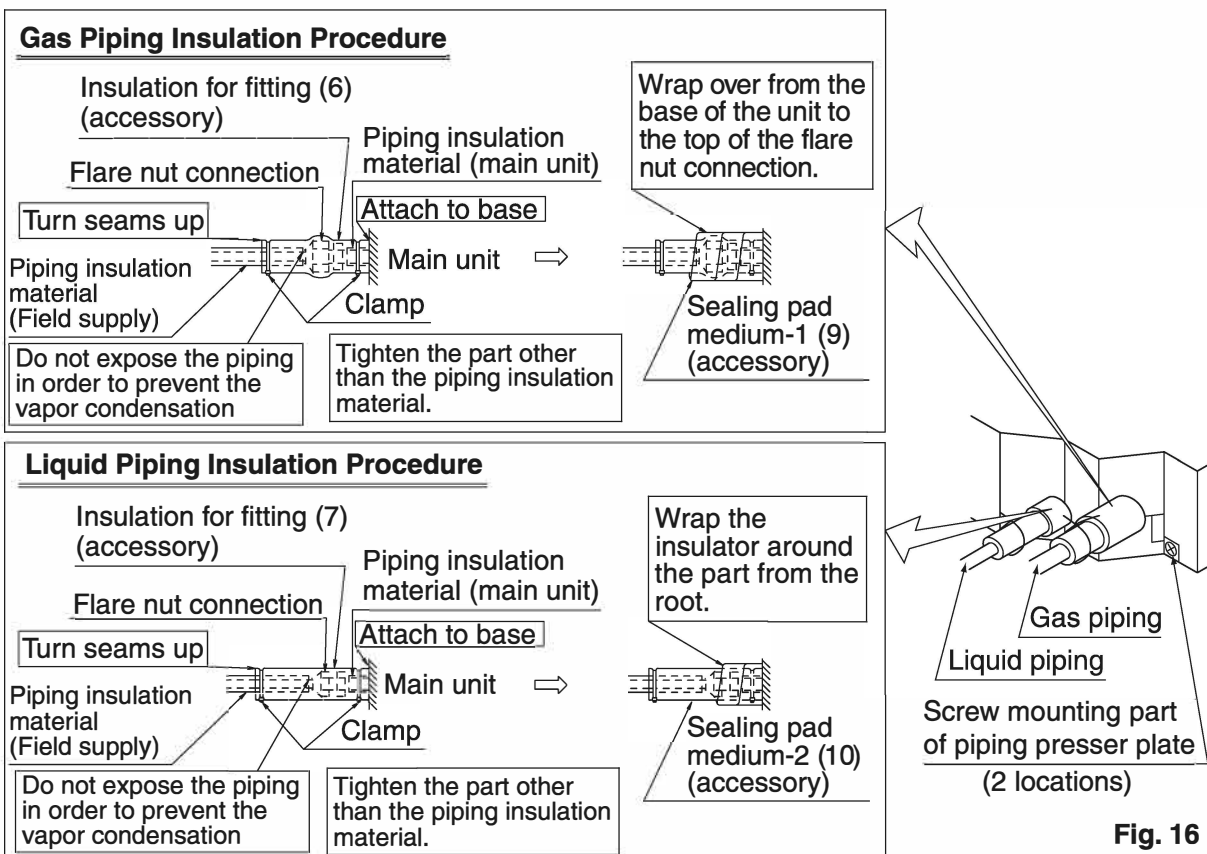
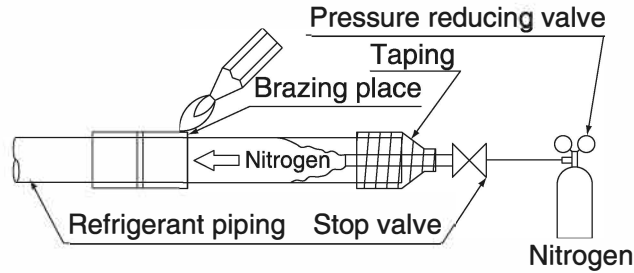

Fig. 16
Fig. 17
- After leak test, referring to **Fig. 16**, insulate both the gas and liquid piping connection with the attached joint insulating for fitting (6) and (7) to prevent the pipings from getting exposed. Then, tighten the both ends of insulating material with the clamp.
- Wrap the sealing material (Medium-1, 2) (9) (10) around the joint insulating for fitting (6) and (7) (flare nut section), both the gas and liquid piping.
- Make sure to bring the seam of joint insulating for fitting (6) and (7) to the top.
- Before brazing refrigerant piping, have nitrogen flow through the refrigerant piping and substitute air with nitrogen (NOTE 1) (Refer to Fig. 17). Then, carry out brazing (NOTE 2). After all the brazing works are finished, carry out flare connection with the indoor unit. (Refer to Fig. 16)